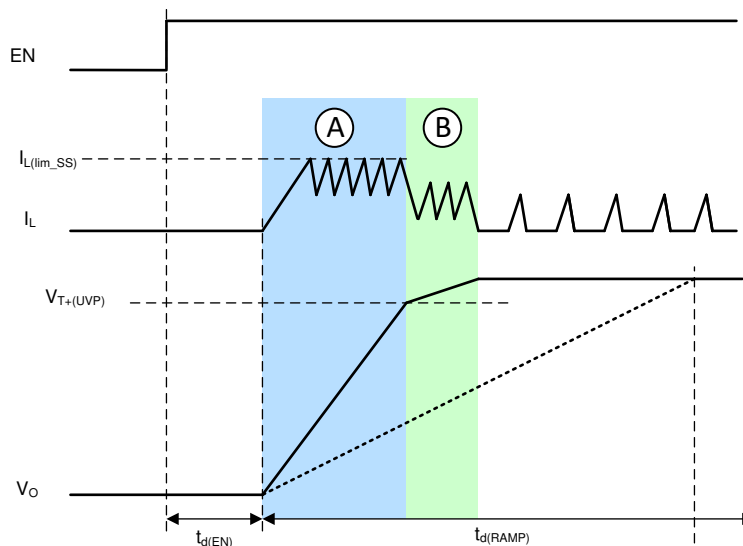

Figure 7-1. Typical Soft-Start Behavior
The TPS631012 and TPS631013 have two start-up mechanisms that are controlled by the FAST_RAMP_EN bit in Register CONTROL2. Figure 7-1 shows a typical start-up case (low output load, typical output capacitance).
- When FAST_RAMP_EN = 1, the fast ramp mode is enabled. The output ramp behavior is shown as the solid line V_o in Figure 7-1
- When FAST_RAMP_EN = 0, the fast ramp mode is disabled. The output ramp behavior is shown as the dash line V_o in Figure 7-1
When fast ramp mode is enabled, the devices control the inductor peak current to limit the inrush current and ensure the fastest possible soft start if the capacitance is chosen lower than that for which the ramp time $t_{d(RAMP)}$ was selected. The output voltage then rises faster than the reference voltage ramp (see phase A in Figure 7-1). To avoid an output overshoot, the current clamp is deactivated when the output is close to the target voltage and follows the reference voltage ramp slew value given by the voltage ramp, which is finishing the start up (see phase B in Figure 7-1). Transition from the current clamp operation is detected using the $V_{T+(UVP)}$ threshold, which is typically 90% of the target output voltage. After phase B, the output voltage is well regulated to the nominal target voltage. The current waveform depends on the output load and operation mode. The current limit during start-up has two options and is controlled by the CL_RAMP_MIN bit in Register CONTROL2.
- When CL_RAMP_MIN = 0, the typical current limit during start-up (phase A in Figure 7-1) is 500mA
- When CL_RAMP_MIN = 1, the typical current limit during start-up (phase A in Figure 7-1) is 1000mA